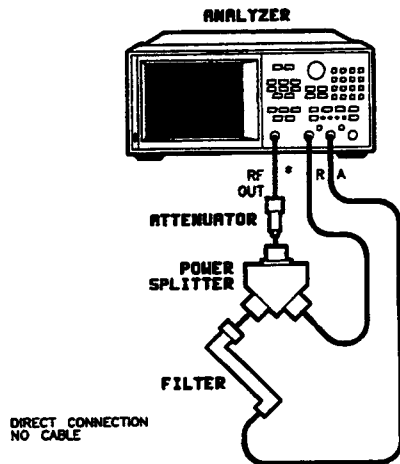

Figure 25. Cavity Oscillator Frequency Correction Constant Setup
1. Check the A9 CC jumper. Connect the equipment as shown in Figure 25, and turn on the analyzer. Press **[PRESET] [SYSTEM] [SERVICE MENU] [TESTS] [5] [4] [x1]**.